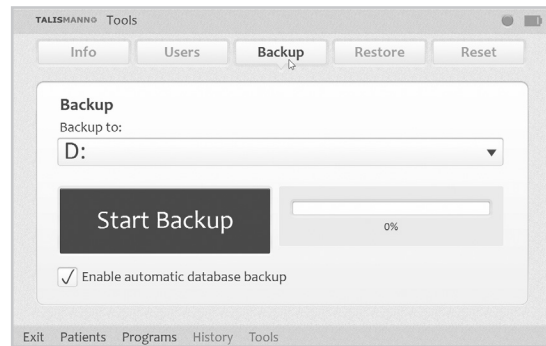

Figure 10-5: Backing up the Clinician’s Programmer database
1. Press “Tools” on the Menu Bar, press the Backup Tab, and then check “Enable automatic database backup”. The Clinician’s Programmer database will back up once daily and each time the software is exited. See Figure 10-5.
2. From the “Back up to” drop-down list, select SD Card drive, and then press the “Start Backup” button. See Figure 10-5.